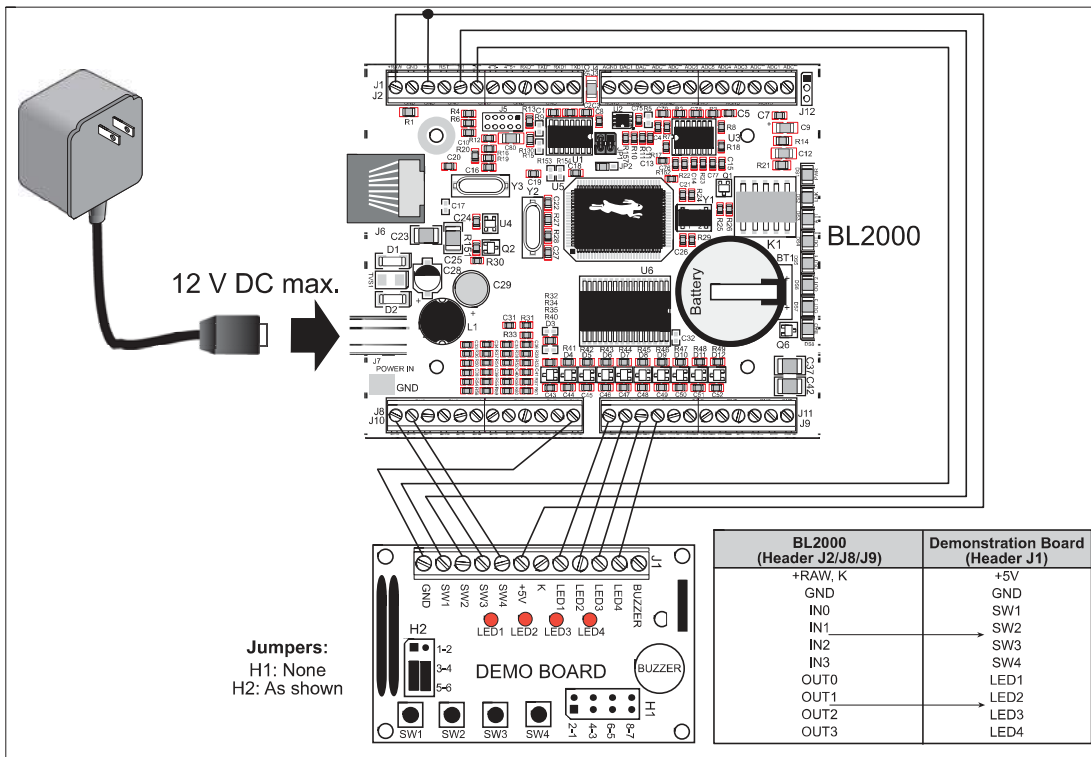
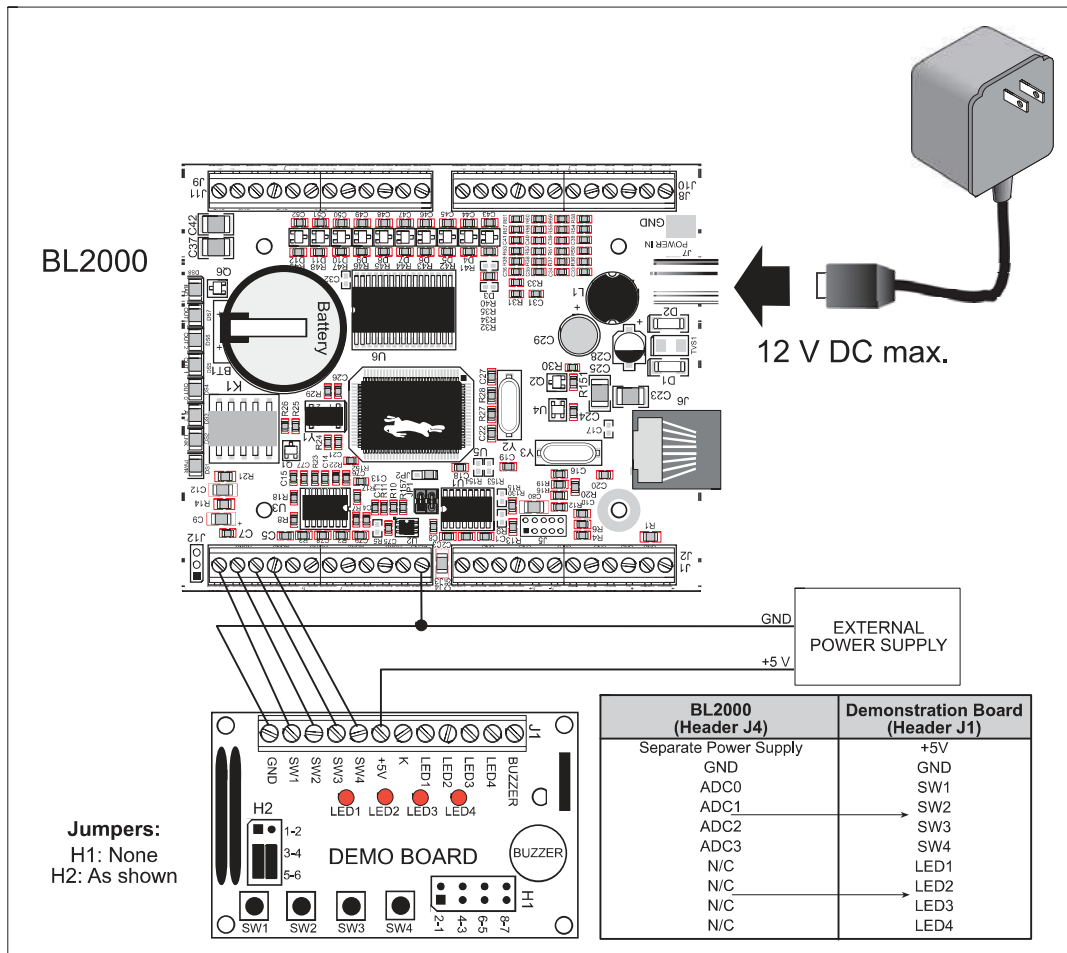

Figure D-1. General Digital Connections Between BL2000 and Demonstration Board
Figure D-2. Analog Connections Between BL2000 and Demonstration Board
1. Use the wires included in the BL2000 Tool Kit to connect header J1 on the Demonstration Board to header J8 and J9 on the BL2000. The connections are shown in Figure D-1 for sample programs `DIGIN.C`, `DIGOUT.C`, and `SMTP.C`, and in Figure D-2 for sample program `ANADIGIN.C`.